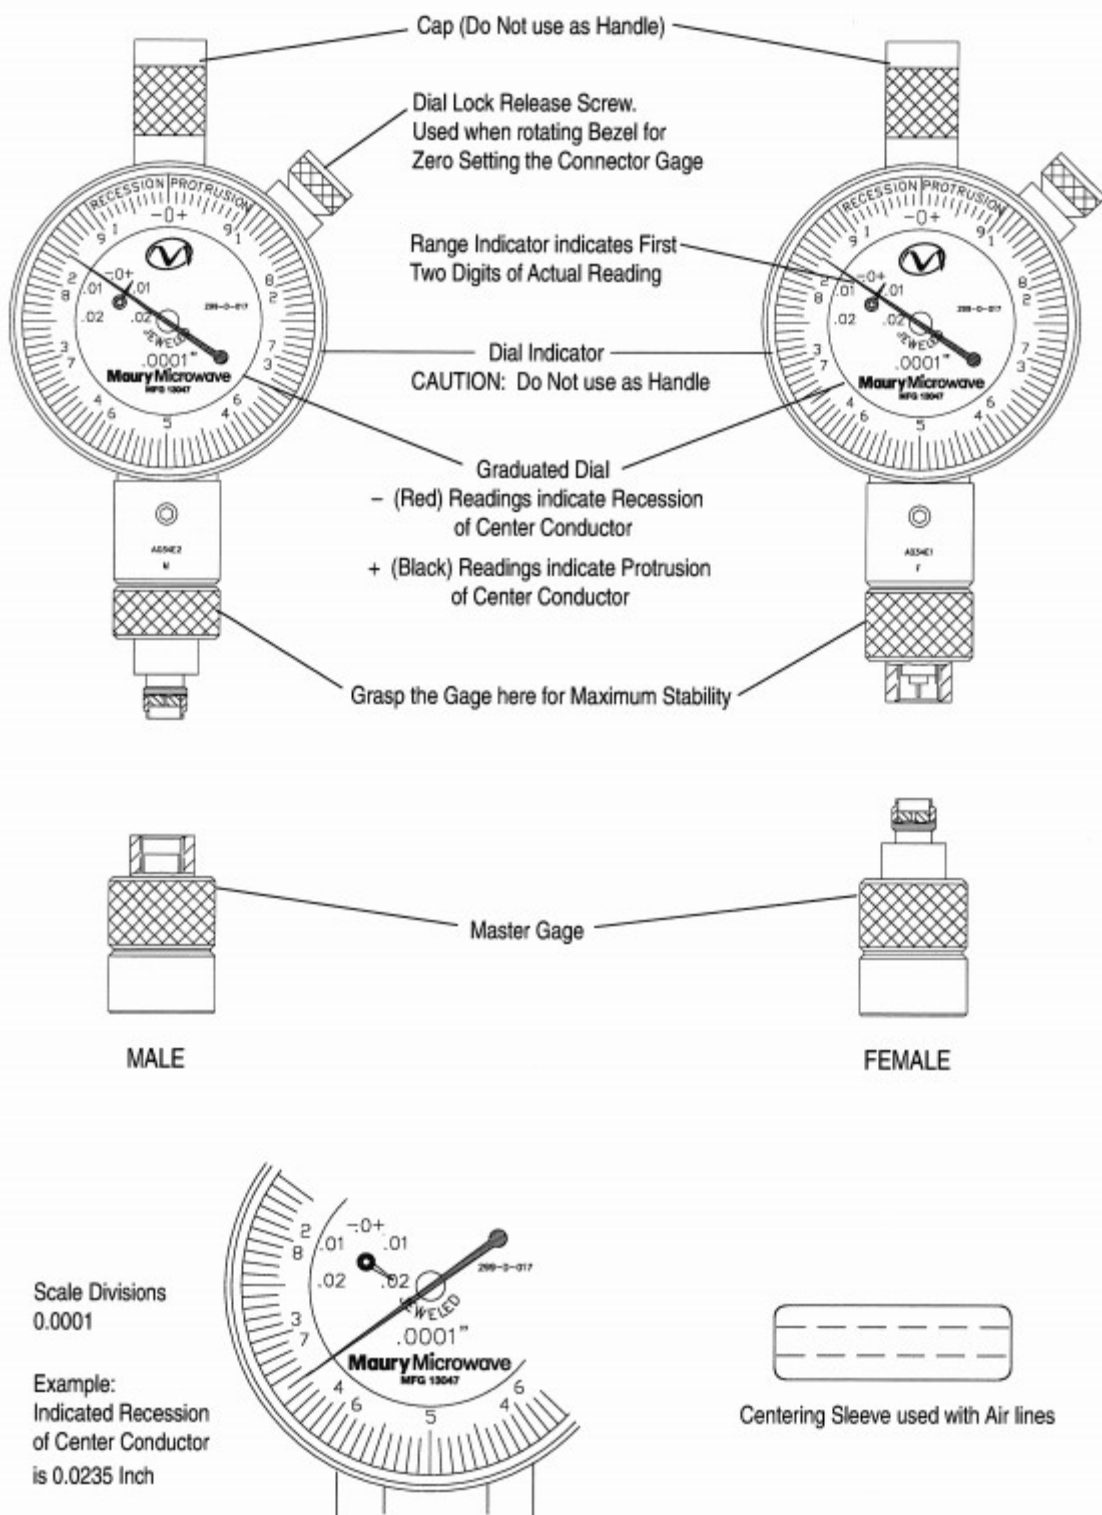

Figure 1. The A034E Connector Gage Kit
The Maury model A034E connector gage kit is designed to measure 2.92/3.5mm connectors with either female or male interfaces. For simplicity, the rest of this manual will refer to measuring in inches. The Maury A034E connector gage kit achieves excellent repeatability by maintaining tightly controlled tolerances on all machined parts. To achieve maximum accuracy, Maury recommends that an average of 3 measurements taken at different gage orientations be used to minimize random errors. See **Figure 1**.
4. Loosen the dial indicator. Retighten the dial lock (Figures 1 and 9).